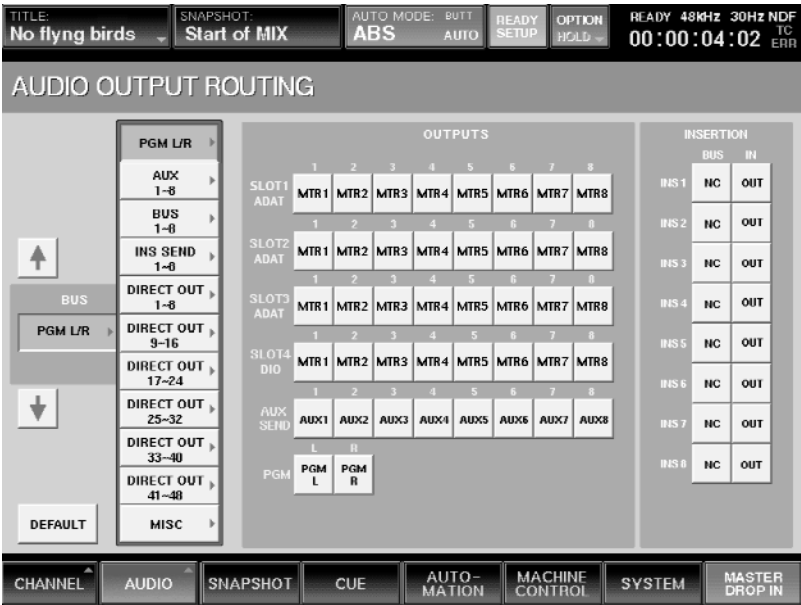

Figure 20
- 2 Press the BUS button on the left of the screen. A menu of possible buses will drop down. (See Figure 20)